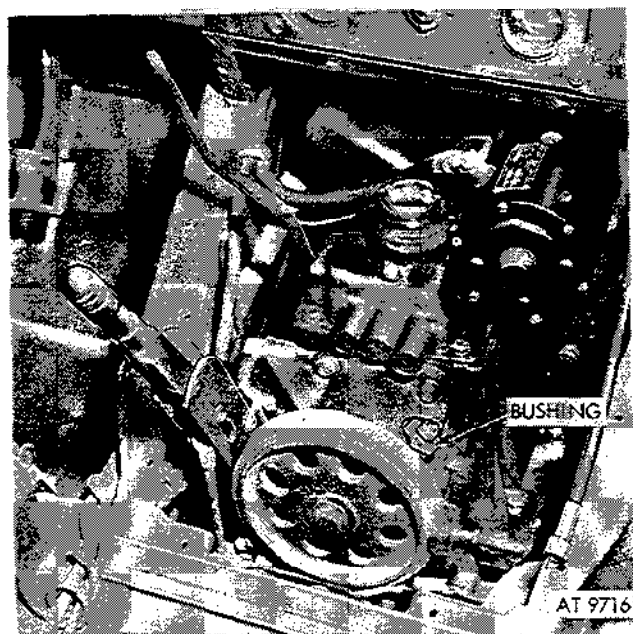

Figure 2-273. Remove driven gear bushing from transfer case.
(4) Remove remaining portion of broken cable. Housing must be removed if damaged. Unscrew hex nut and remove driven gear bushing from transfer case (fig. 2-273).